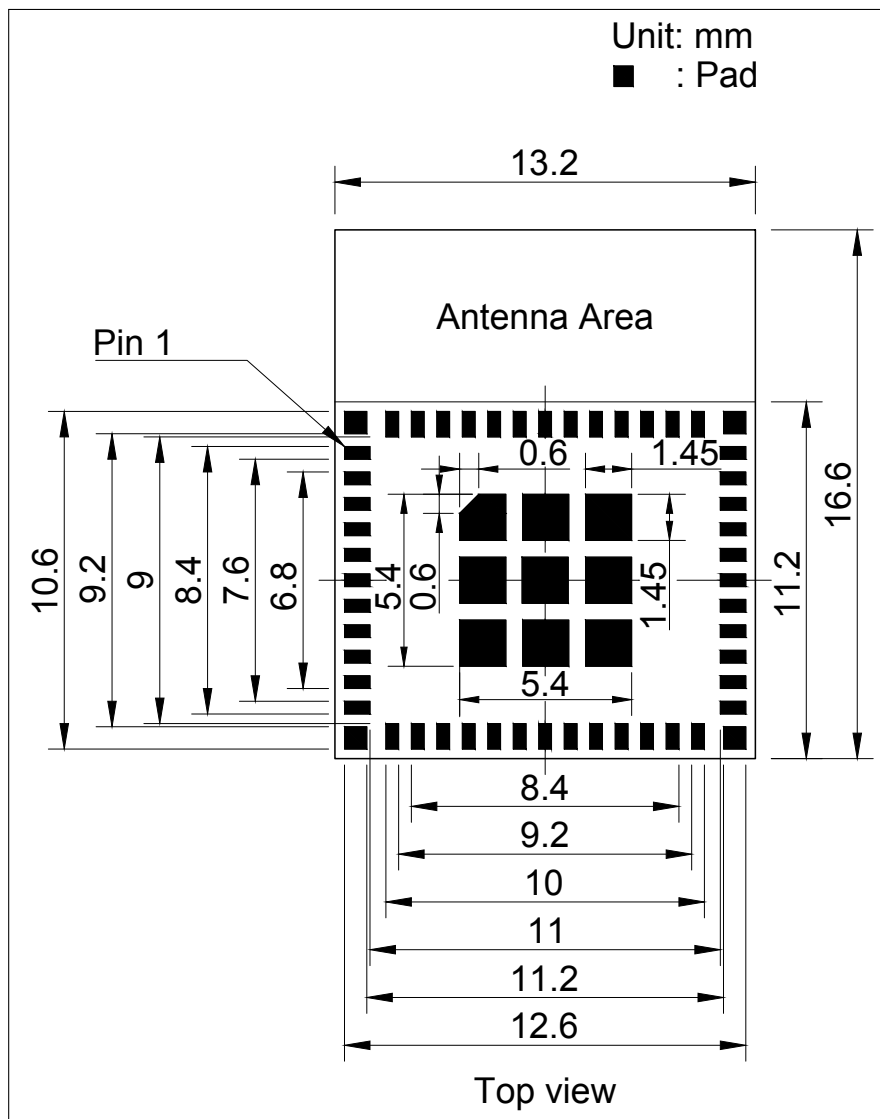
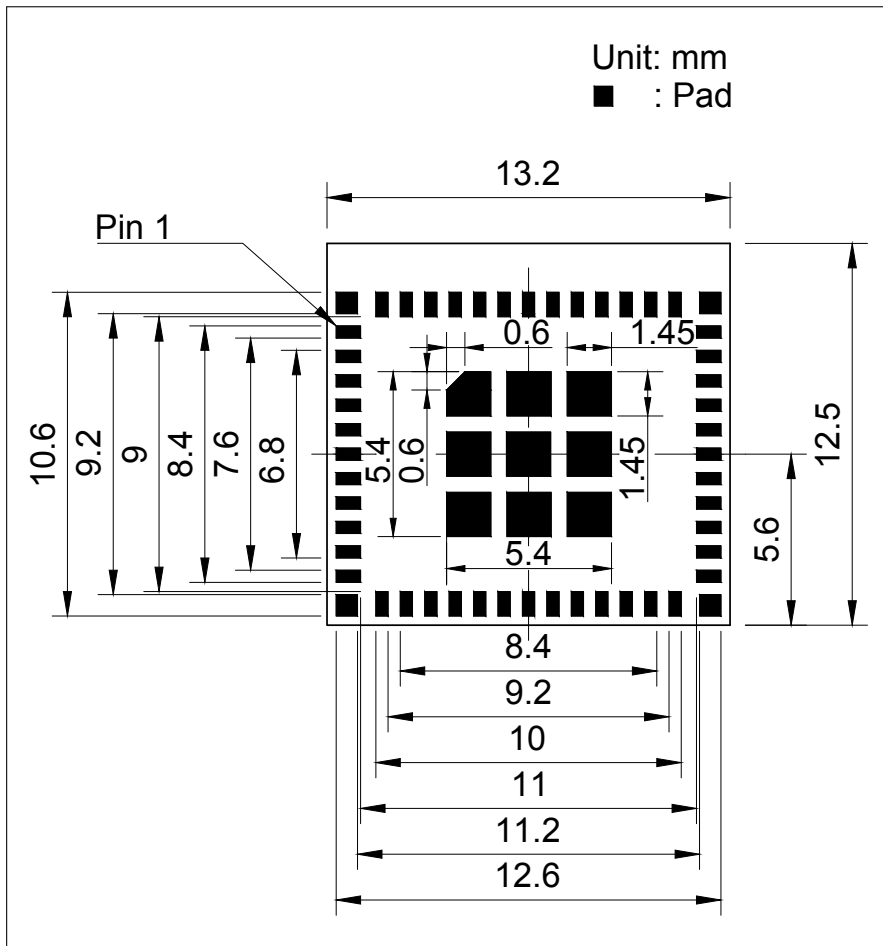

Figure 11: ESP8684-MINI-1 Recommended PCB Land Pattern
Figure 12: ESP8684-MINI-1U Recommended PCB Land Pattern
- Figures for recommended PCB land patterns with all the dimensions needed for PCB design. See Figure 11 *ESP8684-MINI-1 Recommended PCB Land Pattern* and Figure 12 *ESP8684-MINI-1U Recommended PCB Land Pattern*.
- Source files of recommended PCB land patterns to measure dimensions not covered in Figure 11 and Figure 12 . You can view the source files for ESP8684-MINI-1 and ESP8684-MINI-1U with Autodesk Viewer.